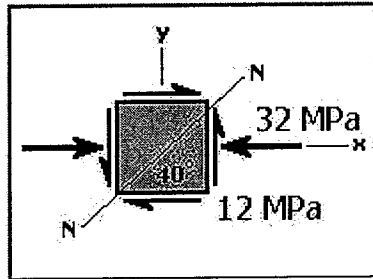

Figure 1
1. Compute the normal stress and the shear stress acting on the indicated inclined plane N-N (Figure 1).